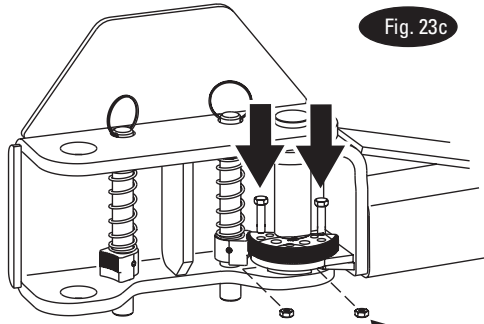

Fig. 23c
Arms With 5 Holes In Bearing Bar: Then, install the (2) 3/8"-16NC x 1-1/2" HHCS (8 total for all 4 arms) and 3/8" Spring Lock washers into the gear and arm, but do not tighten. Reference Fig. 23c, Fig. 24a, and Fig. 24b.
Arms With 3 Holes In Bearing Bars: Then, install the (2) 3/8"-16NC x 1-1/2" Lg. HHCS ((8) total for all (4) arms) into the gear and arm. Using 3/8" hex jam nuts, secure restraint gears to arms. Reference Fig. 23c and Fig. 24b.